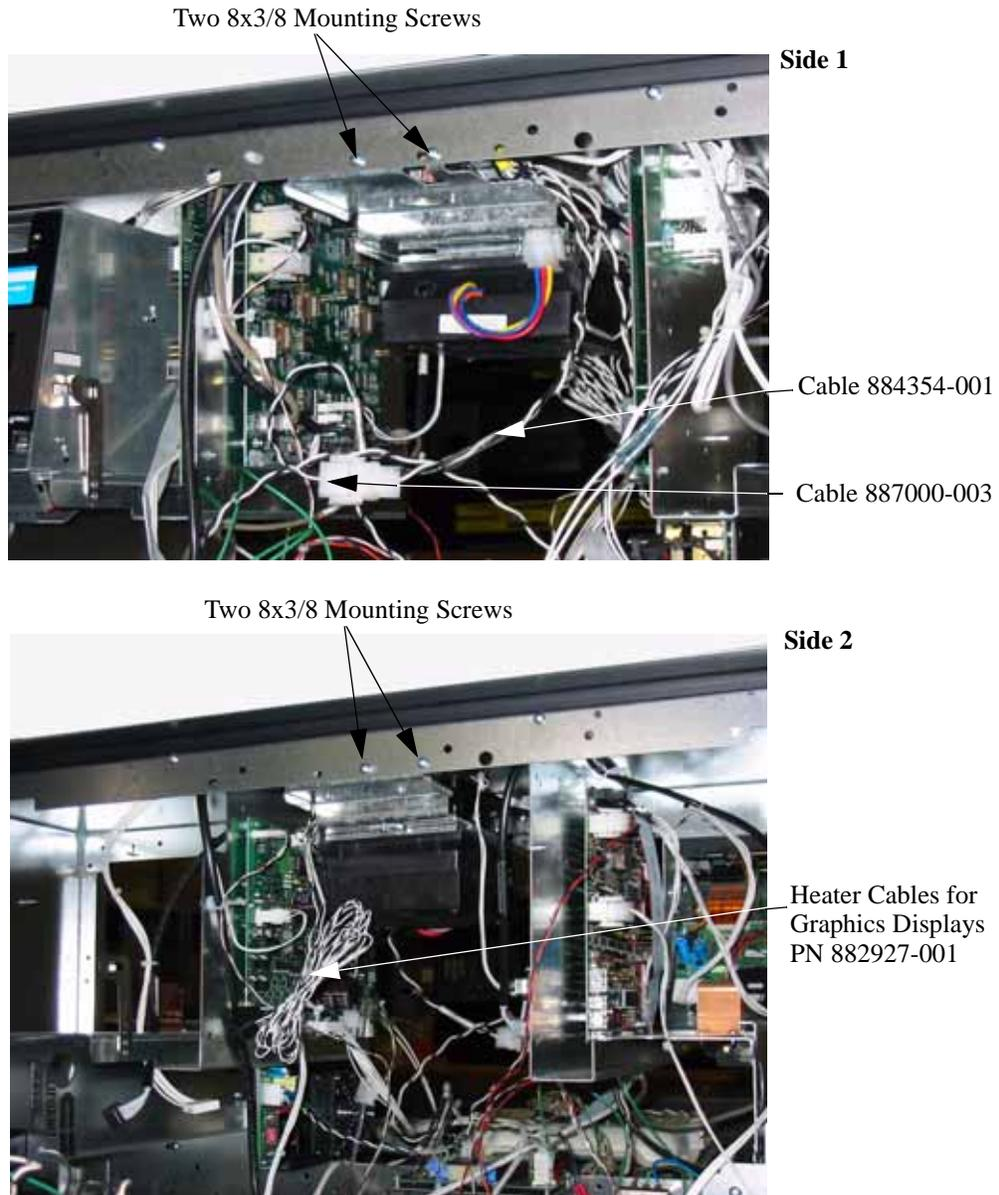

Figure 2-13 Dispenser Heater Installation
1. Mount the heater assembly into the dispenser in the top of the head at a location between the IGEM Pump Computer and the Dual CAT Board and secure with four 8x3/8 screws . See Figure 2-13.